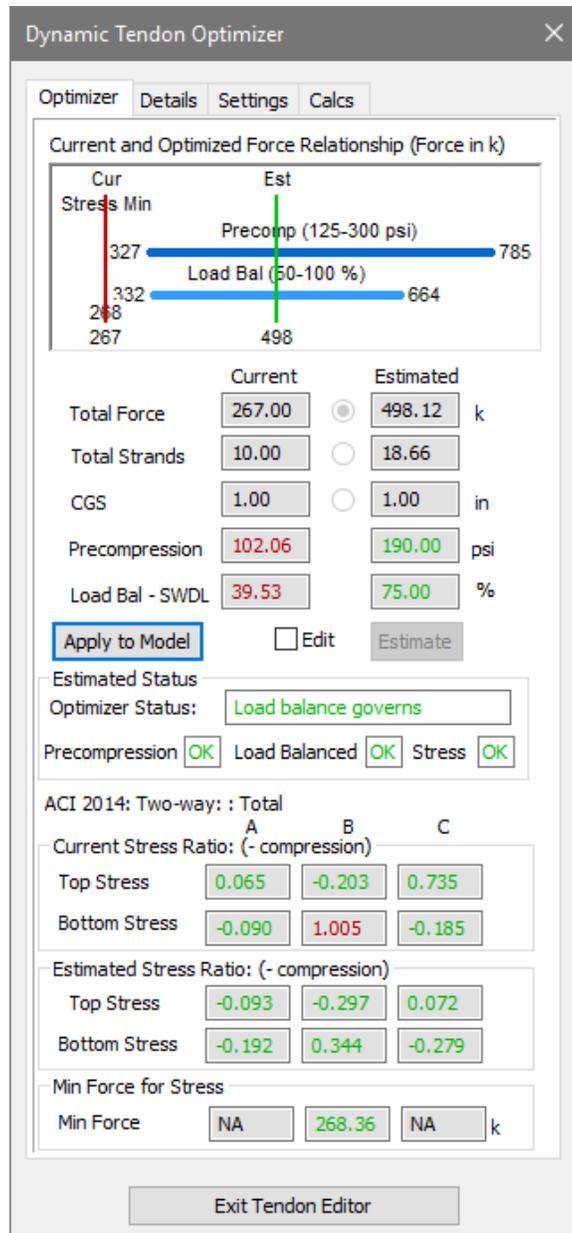

Figure 8-62
- Click on the *Optimizer* tab in the *Dynamic Tendon Optimizer* window. This will bring up the view shown in **FIGURE 8-62**.